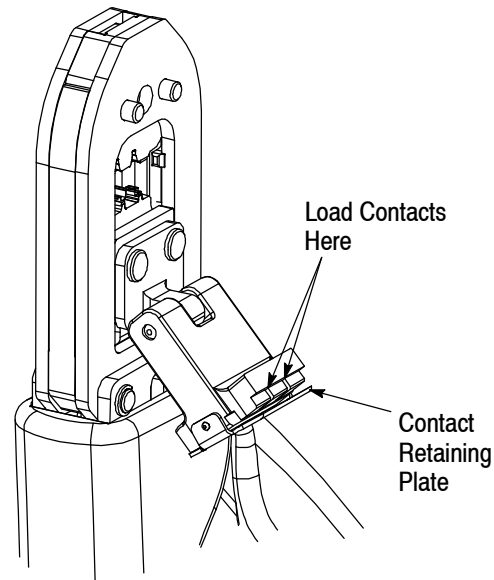

Figure 2
3. Be sure the flip locator is in the load position (see Figure 2). Hold the contact by the wire and insulation barrel, push the contact retaining plate and insert the contact receptacle into the flip locator so that the top of the contact (opening for the wire) faces away from the tool. Be sure to insert the contact in the proper nest according to the wire size on the front of the tool. Once the contact is loaded, release the contact retaining plate and flip the locator up 90°.